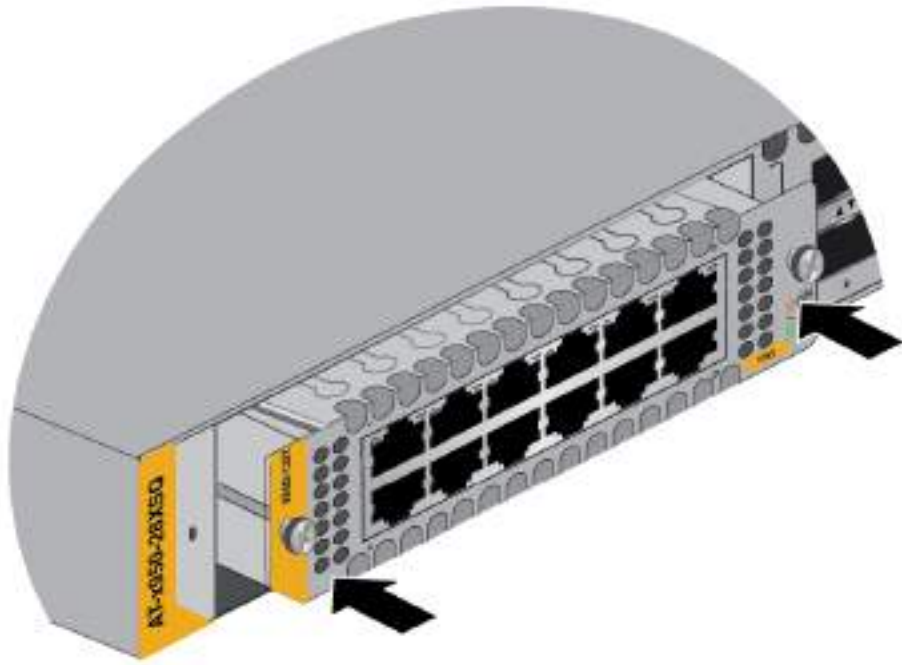

Figure 57. Seating the Ethernet Line Card in the Expansion Slot
4. When the line card makes contact with the internal connector in the switch, gently press on the sides of its faceplate to seat it on the connector. Refer to Figure 57.